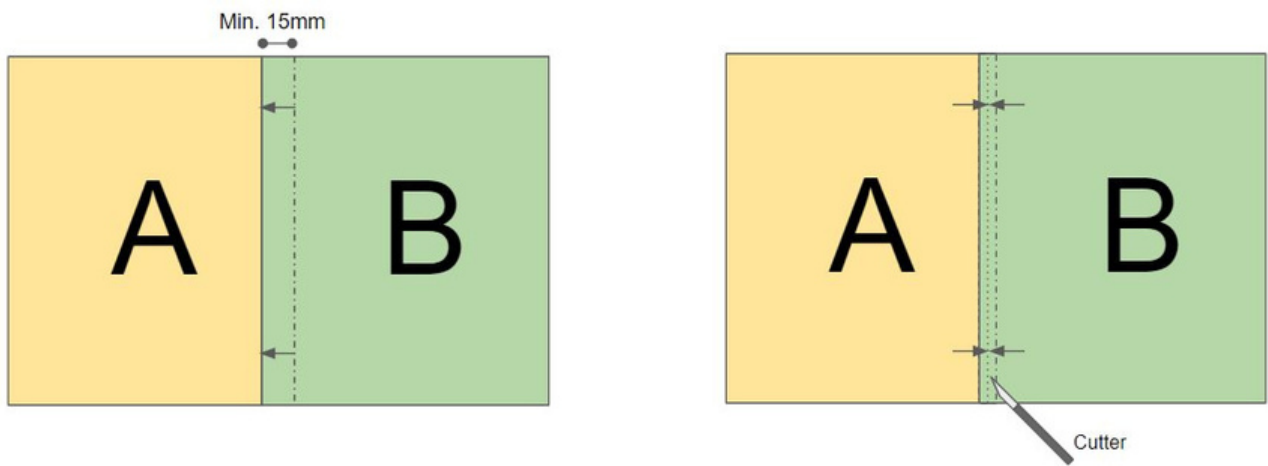

Fig 1 Fig 2
- Simple overlap seams: requires an easy overlap of at least 15 mm. *Fig 1*